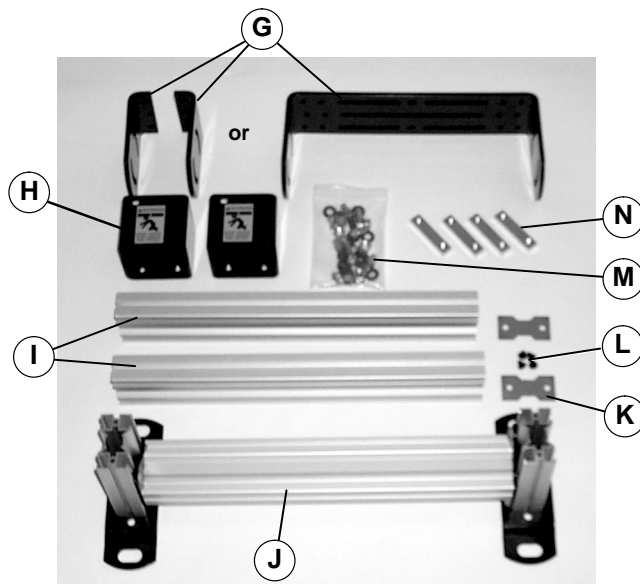
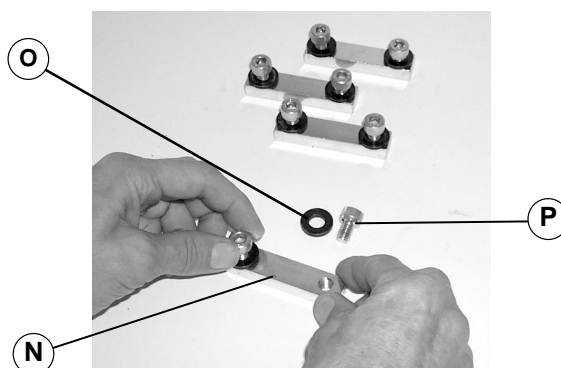

Figure 2
Figure 3
1. Typical components of multi tier stand (Figure 2).
Multi Tier Stand Typical Components (Figure 2)
2. Open tier hardware pack (M of Figure 2). Install two hard washers (O of Figure 3) and M8 x 12mm socket head screws (P) on tube joining bar (N). Do not tighten screws.